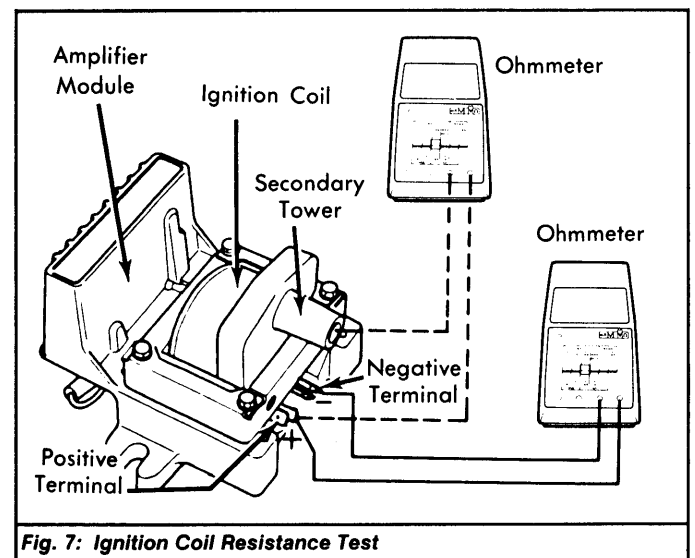

Fig. 7: Ignition Coil Resistance Test
- 1) Using an ohmmeter set on low scale, connect leads to coil primary (positive and negative) terminals. Resistance should be .48-.64 ohms. See Fig. 7.